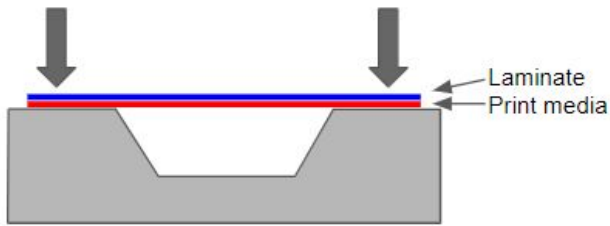

Fig.1
1) Position the film over the entire surface area and apply it on the surface with the help of a squeegee. Fix the edges firmly before applying the film into the corrugation. *Fig.1*